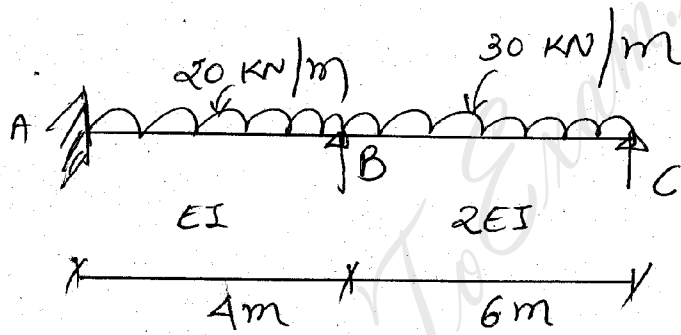

FIG 7
- 6 Calculate and draw bending moment diagram using Moment Distribution method for a beam shown in fig. 7. 11